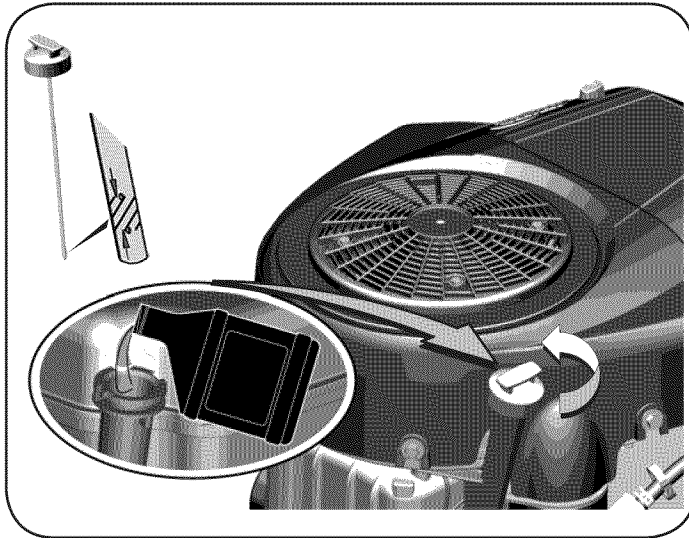

Figure 25
5. Remove the dipstick and check the oil level. It should be at the Full mark on the dipstick. See Figure 25.